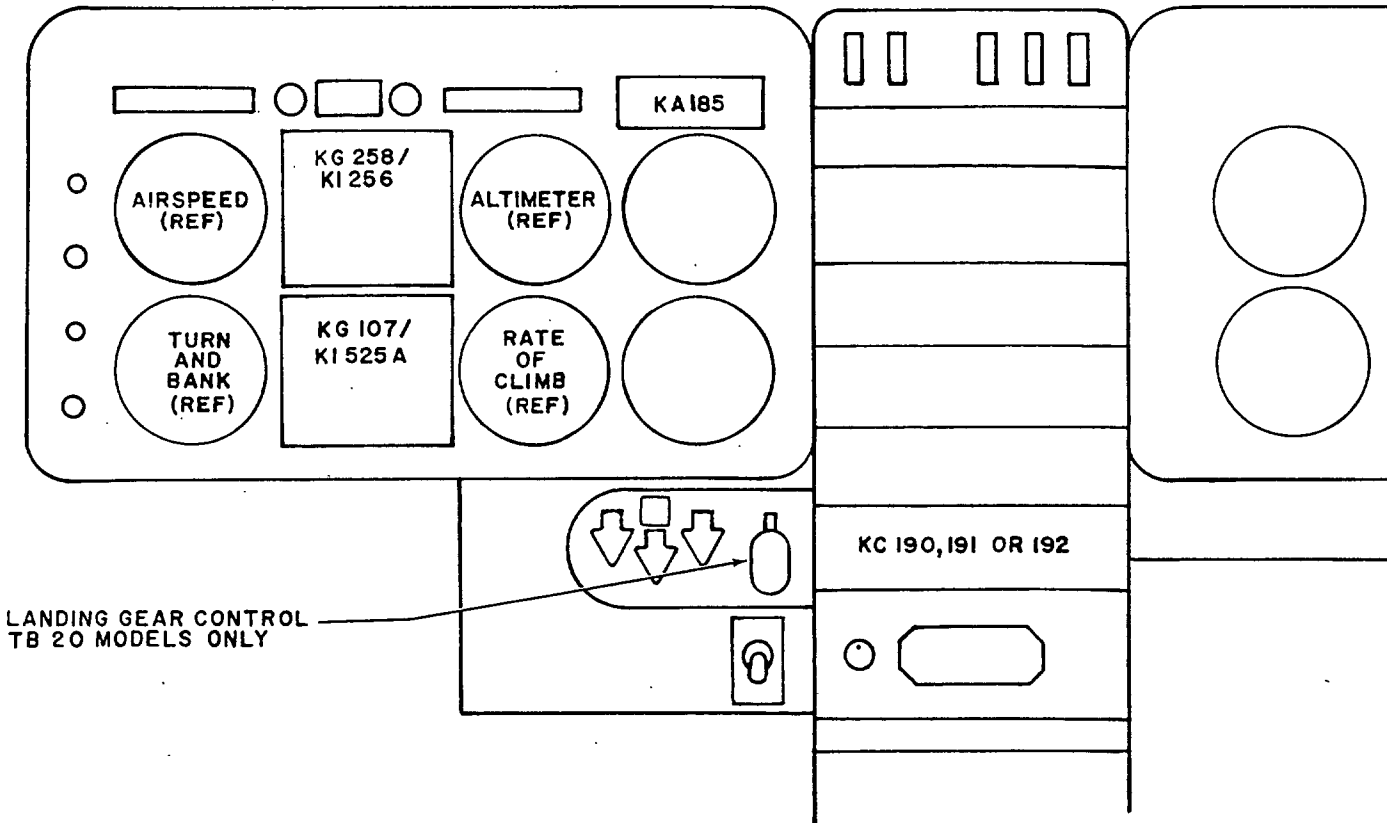

FIGURE 2-A INSTRUMENT PANEL LAYOUT
- C. The KI 256 or KG 258 is plumbed in the same manner as any air driven gyro. The ports for vacuum are located on the rear of the unit. The inlet port is clearly marked as such. Use the existing plumbing and hardware to connect the pneumatic gauge lines to the proper fittings. Figure 2-B is used to plumb the gyro to the airplane's existing vacuum or pressure system.